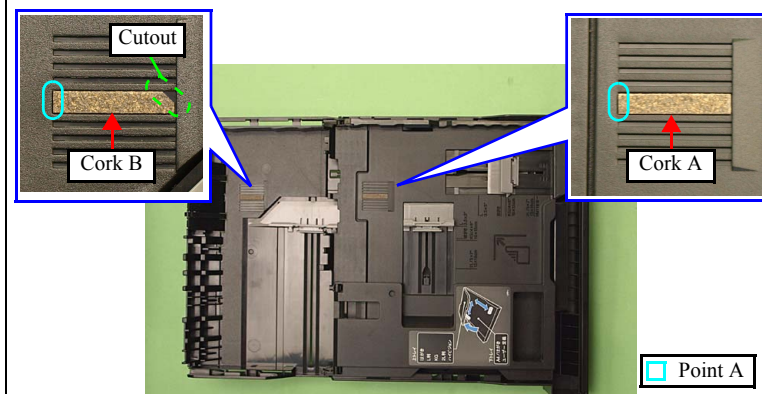

Figure 4-33. Attaching the cork
- When attaching the cork B, align the cutout to the place shown in Fig. 4-33.